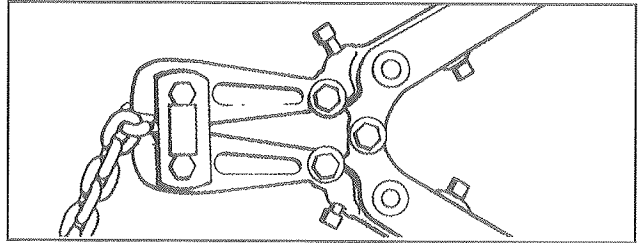

Figure 12. Cutting chain with a bolt cutter
3. Use a bolt cutter (figure 12) similar to the H.K. Porter No. 0590MTC with special cutter jaws for cutting hardened chain (1" long cutting edge).